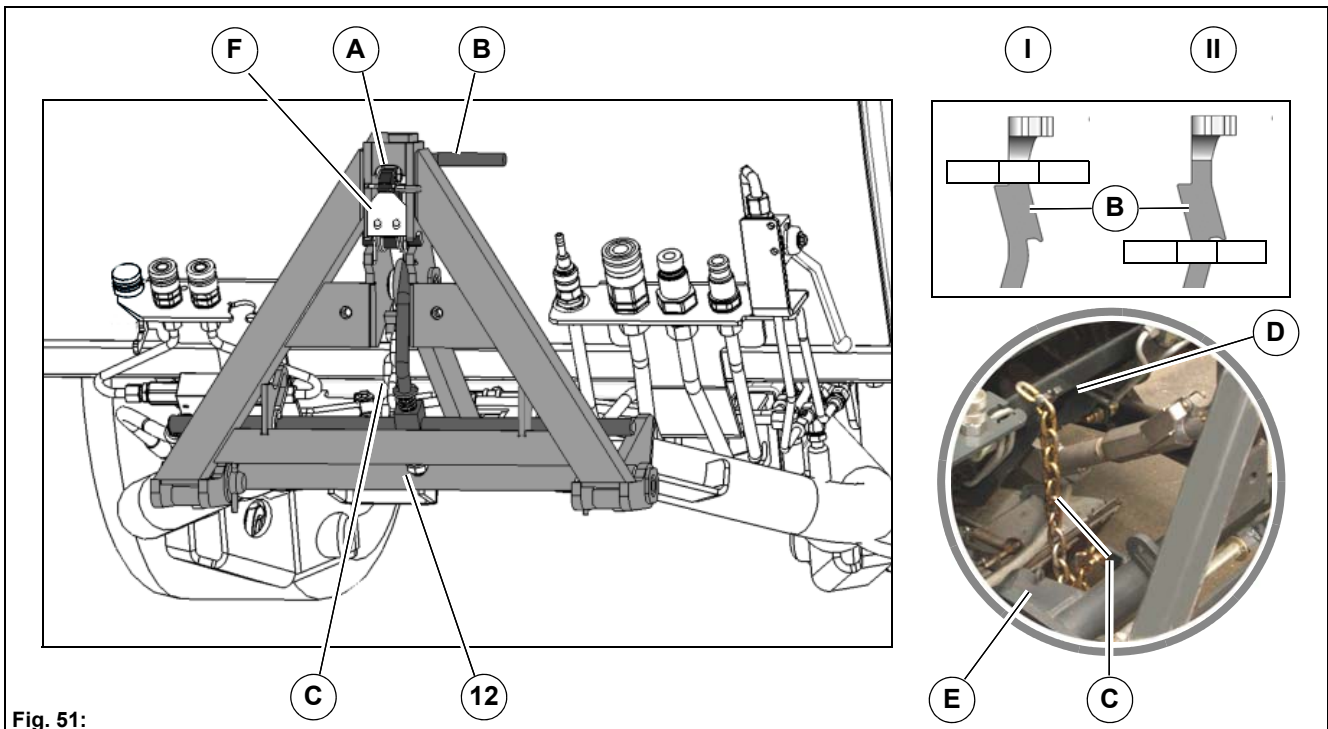

Fig. 51:
2. Bring the locking hook **Fig. 51-A** into the rear position and the lever **Fig. 51-B** into the upper position (II). Pick up the chain **Fig. 51-C** and hook in onto the hook **Fig. 51-E**.
4. Bring the locking hook into the front position and the lever into the lower position (I).
5. The movement limiter of the front tool carrier is determined by the chain **Fig. 51-C** and the hooking point of the chain.
- For vacuum sweeping, hook the chain in the holder **Fig. 51-D** with the first link.
- For attachments with floating position the chain must be hooked onto the hook **Fig. 51-E!**
6. Check the locking plate **Fig. 51-F** on the attachment. If necessary, loosen the screws and shift the locking plate.